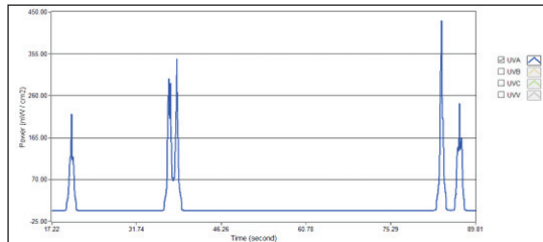
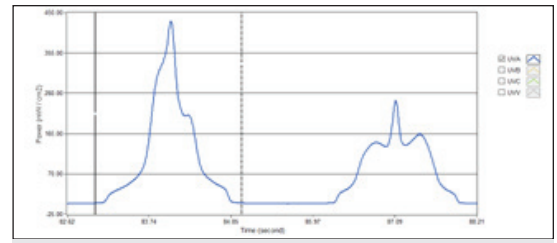

Figure 11.
Figure 13.
7. **Individual source performance:** Profilers allow users to quickly determine the irradiance and energy density values from an individual source in a multi-source system. Figure 11 shows the UVA profile from a five-lamp system. Figure 12 is a table that shows the total irradiance (power) and energy from all five sources. The values are based on data between 0 and 107.65 seconds.
Figure 13 shows a zoomed-in view of just Lamps 4 and 5 from Figure 11. Cursors are placed on either side of Lamp 4. The UVA irradiance/power ($430 \text{ mW}/\text{cm}^2$) and energy (234.4